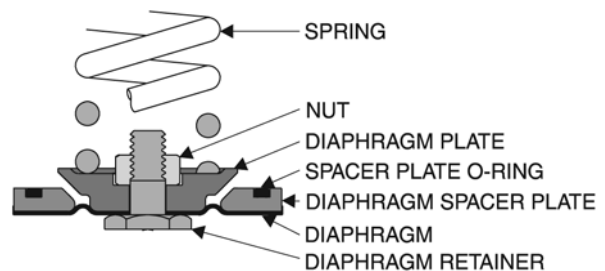
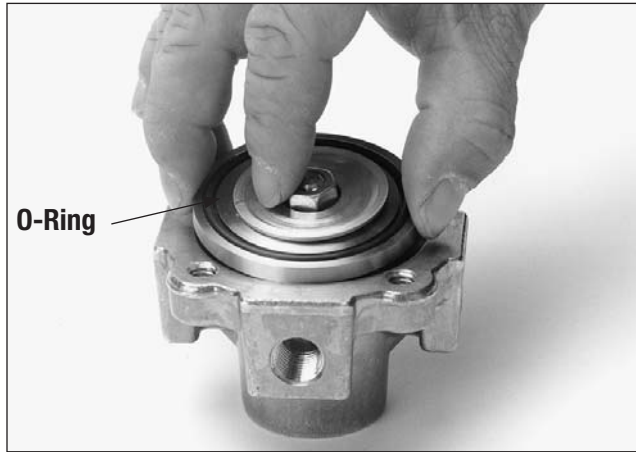

Figure 26. Insert Body Insert (Cartridge) with lubricated Stem O-Ring into the Pilot Body.
Figure 27 - Placing high pressure Diaphragm Assembly on Pilot Body.
1. **Diaphragm Assembly:** Install the Pilot Diaphragm with convex side toward Diaphragm Plate and Main Spring (refer to Figure 26). Tighten nut on the Diaphragm Retainer to approximately 5 to 6 ft-lbs torque.
- Place Diaphragm Assembly in the pilot body with the diaphragm touching the grooved sealing surface of the pilot body and the O-Ring facing up. (Refer to Figure 26 & Figure 27).